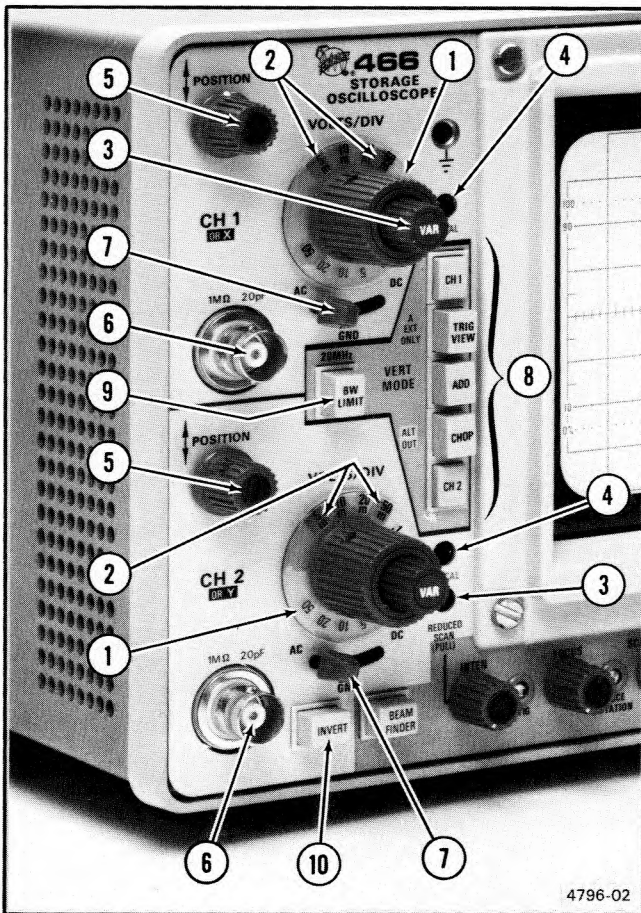

Fig. 2-2. Vertical section.
Refer to Fig. 2-2 for location of items 1 through 10.
- ① **CH 1 and CH 2 VOLTS/DIV**—Selects the vertical deflection factor in a 1-2-5 sequence (VARIABLE control must be in the calibrated detent for the indicated deflection factor).
- ② **VOLTS/DIV READOUT**—Consists of two small indicators for each channel, located beneath the skirt of each VOLTS/DIV knob. The right LED will light up to indicate the correct deflection factor when a 10X probe with a scale-switching connector is used. The left LED lights up when a probe without the scale-switching connection (or no probe) is used.
- ③ **VAR**—Provides continuously variable uncalibrated deflection factors between the calibrated settings of the VOLTS/DIV switch, and extends the maximum vertical deflection to at least 12.5 volt per division (5 volt position).
- ④ **UNCAL Indicator**—Indicates when the VARIABLE VOLTS/DIV control is out of the calibrated detent and the vertical deflection factor is uncalibrated.
- ⑤ **POSITION**—Positions the display vertically. CH 2 POSITION positions the Y-Axis (vertical) display in X-Y Mode.
- ⑥ **CH 1 OR X and CH 2 OR Y**—Input connectors for application of external signals to the inputs of the vertical amplifier. In the X-Y mode of operation, the signal connected to the CH 1 OR X connector provides horizontal deflection and the signal connected to the CH 2 OR Y connector provides the vertical deflection.
- ⑦ **AC-GND-DC**—Selects the method used to couple a signal to the input of the vertical amplifier. In the AC position, signals are capacitively coupled to the vertical amplifier. The dc component of the input signal is blocked. In the GND position, the input of the vertical amplifier is disconnected from the input connector and grounded to allow the input coupling capacitor to precharge. In the DC position, all components of the input signal are passed to the input amplifier.
- ⑧ **VERT MODE**—Selects the display of any combination of Channel 1, Channel 2, and Trigger View in either Chopped or Alternate mode.